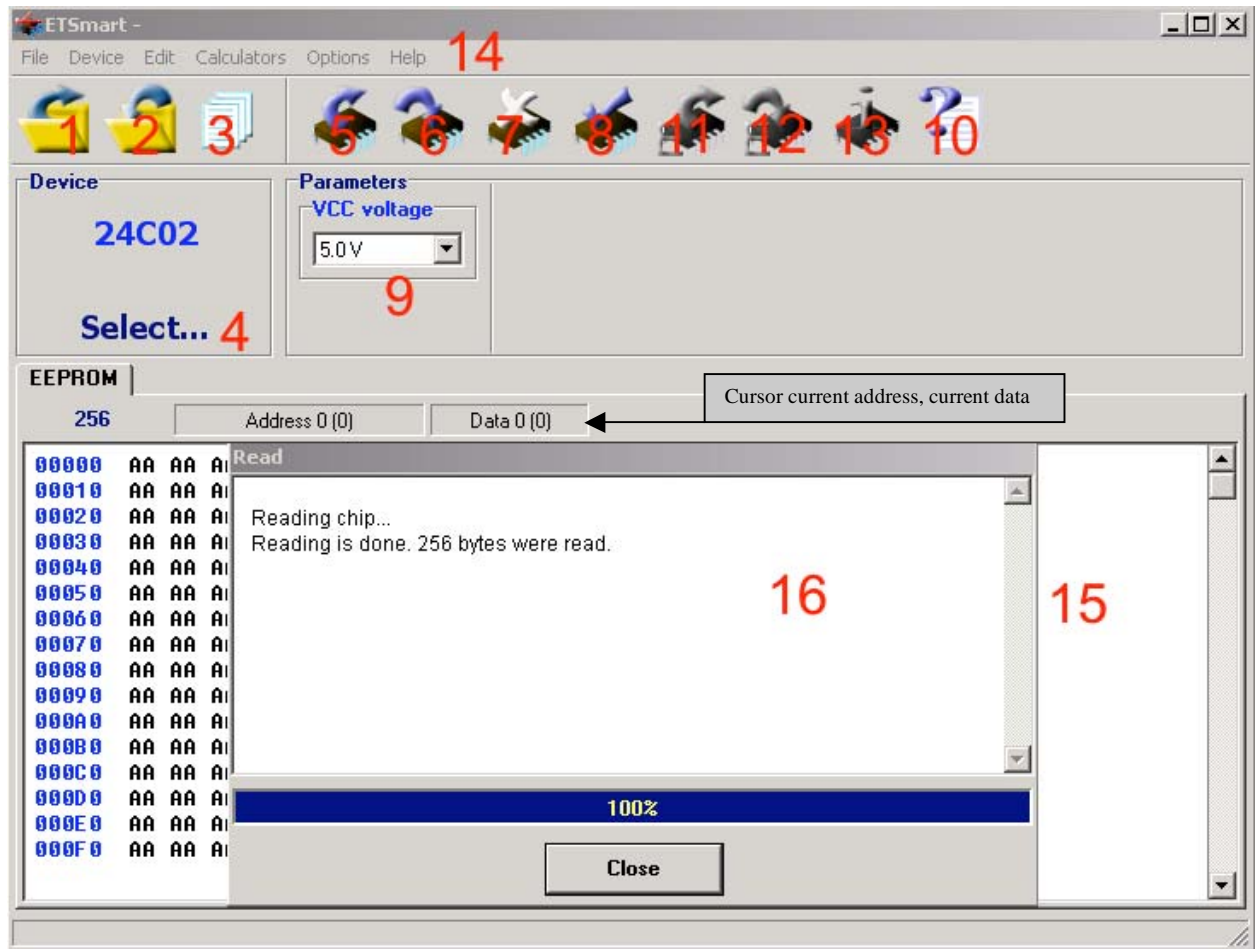
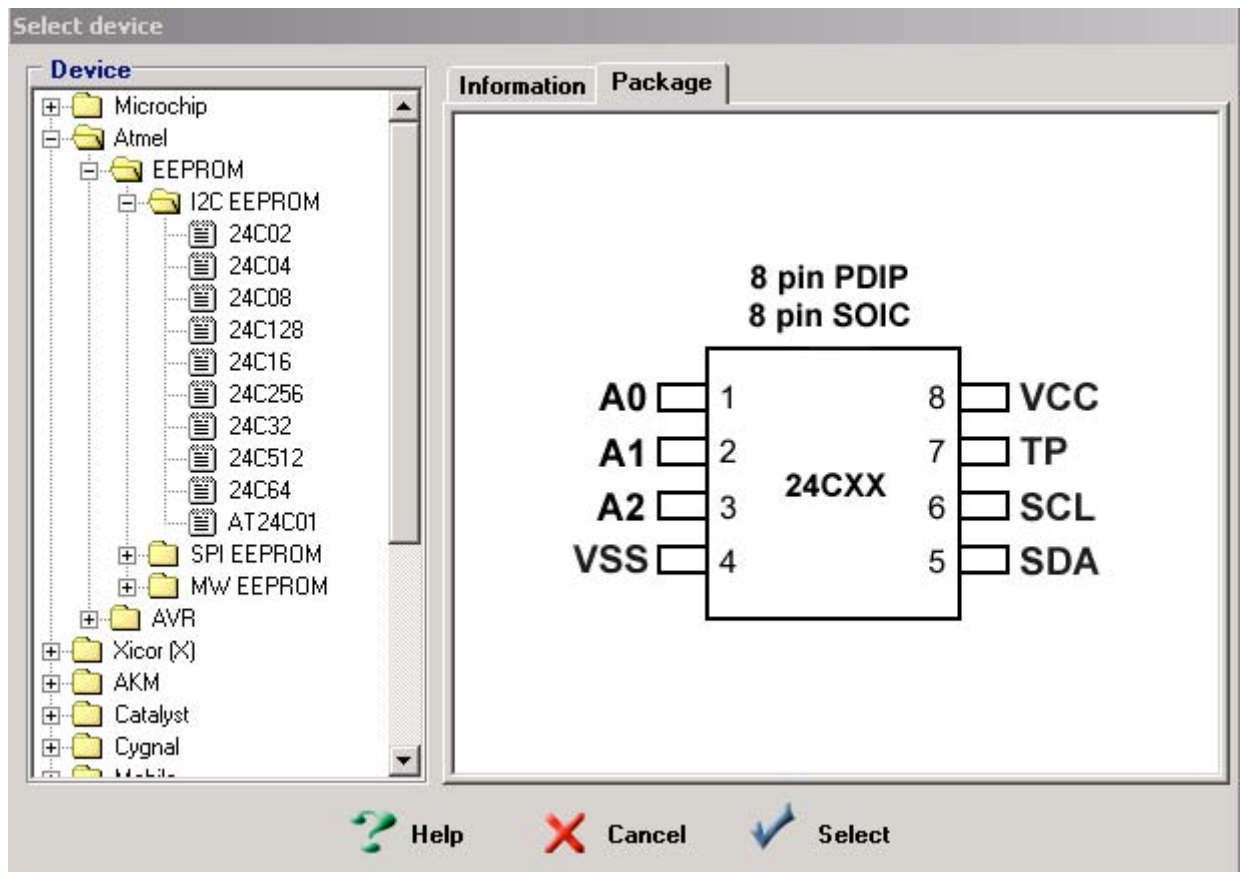
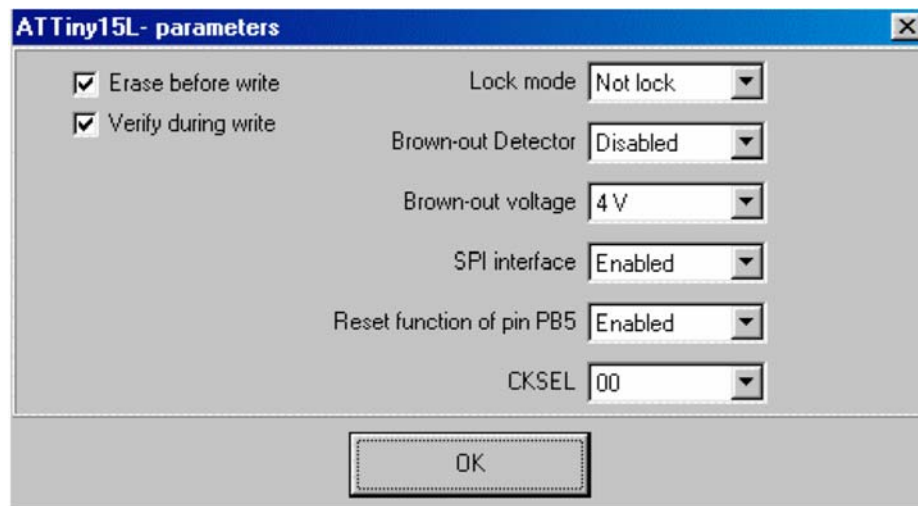

Figure 8. Users interface; Run time window
Figure 9. Select device window
Figure 10. Special parameters window
Select device first before start any (item 4, see Figure 8), so that the ETSMARTUSB could select the proper algorithm to the name and manufacturer of the devices (see Figure 9). Device and package information you should see in the right part of select device window. Some special devices, like microcontrollers have special requests in operation except the basic steps, which included special programming fuses for security protection, clock source selection and etc., these special information contain in the device's data sheets (device's manual) see Figure 10. Click "Open file" button or corresponding menu item. After device selection, the software will not identify the data type automatically, just select type of file manually according with corresponding extension. The editor supported three types of file formats as Binary (*.bin), Intel HEX (*.hex), Motorola S-Records (*.s19). If the extension of the file unknown, choose All files e.g. *.*. As default start address starts from \$00 pointer. Uncorrected file offset address (like large offset address) may case data overflow in the buffer and system failure may occur. Click edit brings lower menu items. You may edit the buffer data like insert bytes, swap bytes, fill buffer, erase buffer, compare to other file. Loading mode normal, that's mean all files can be loaded. After edit buffer click "Save file" button, it will save the current edited data in the buffer to disk.
Program function (“Write device” button) writes the data from the buffer into the chip. The verify function (“Verify device” button) not verifying device during programming. Even if an errors occurs, the process will not be ceased. All errors, mismatches you should see into run time window (see Figure 8). The processes of operation indicated via status bar. Click “Close” button when operation is finished. “Dump Library” menu command allow to load files from library, device selection for this case not necessary, because type of target device recalled from library. “Calculators” menu command included useful algorithms for car radios.